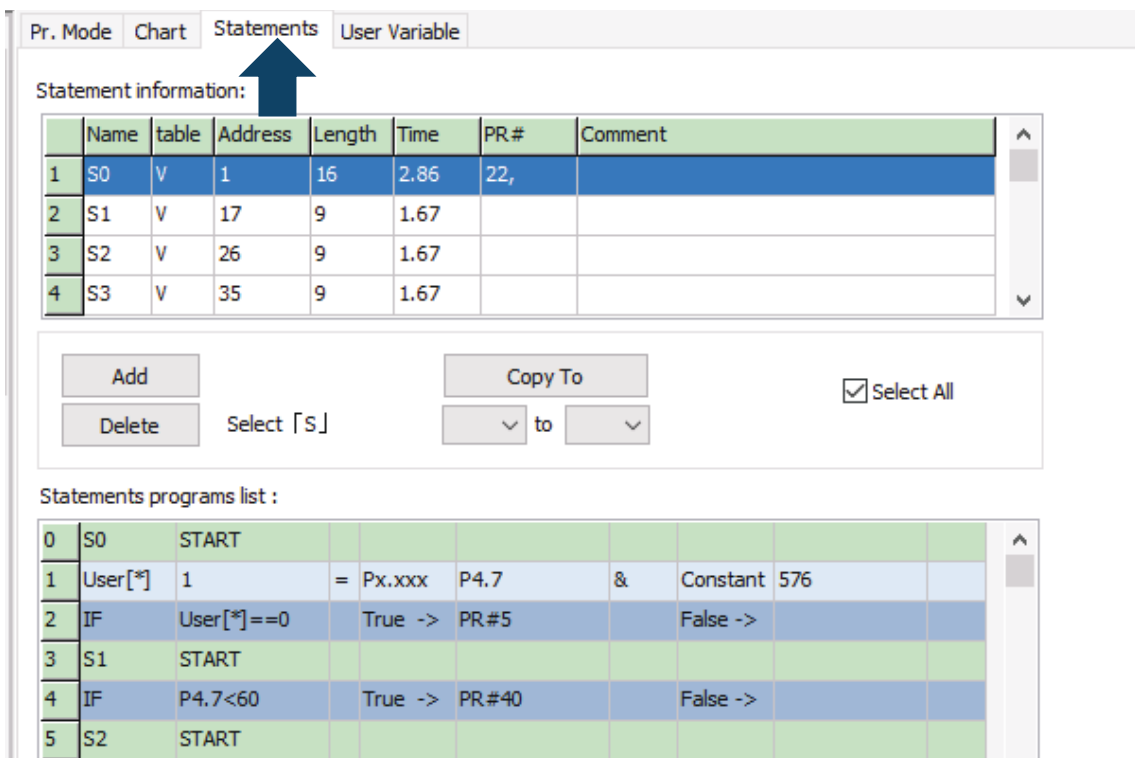

Figure 7.1.3.7.2 Statements tab in ASDA-Soft
- Statement section: this section includes statements and memory capacity. Statements save the data from the expression and procedure sections. Data in the expression and procedure sections of the same statement always remain identical and can be shared by multiple PR paths. If data in those two sections are different, then the data is saved to another statement. The time required to execute the statement is shown in the Spend Time field. Total Capacity shows the servo drive's memory capacity; basic operations cannot be performed if there is no memory space available. The Statements tab is shown in Figure 7.1.3.7.2. The upper section displays all the statements and the lower section displays the operations in each statement and the values.